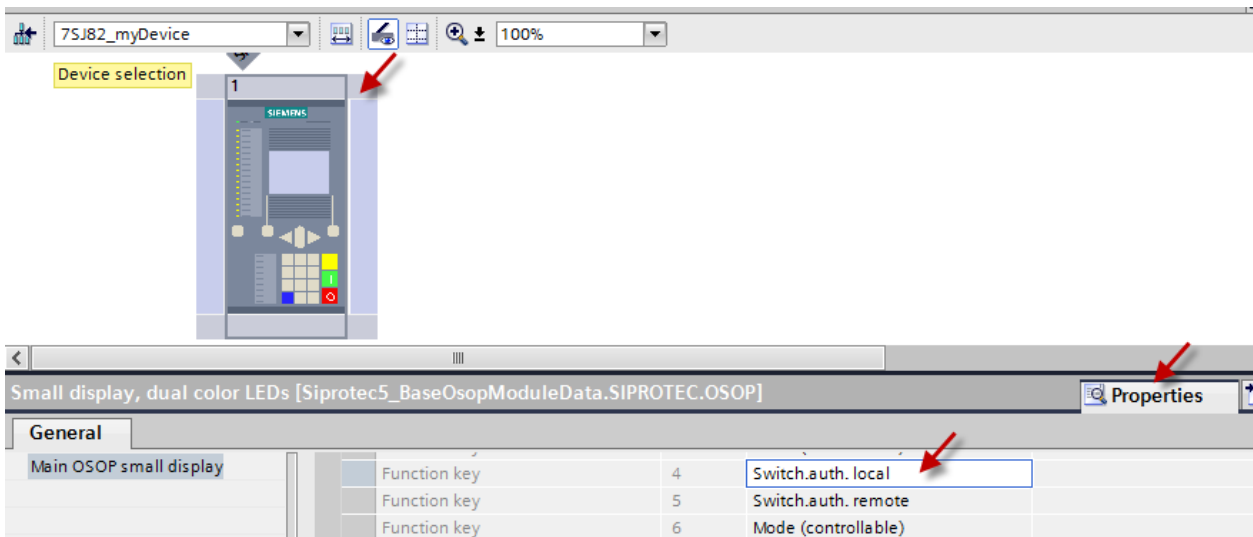

Figure 3: Labeling of function keys
5. Open the editor „hardware and protocol and label the function keys in the related device menu. Select the operation panel and the “properties” (see figure 3). Label with the function keys with unique names e.g. „Switch.auth.local” and „Switch.auth.remote”.